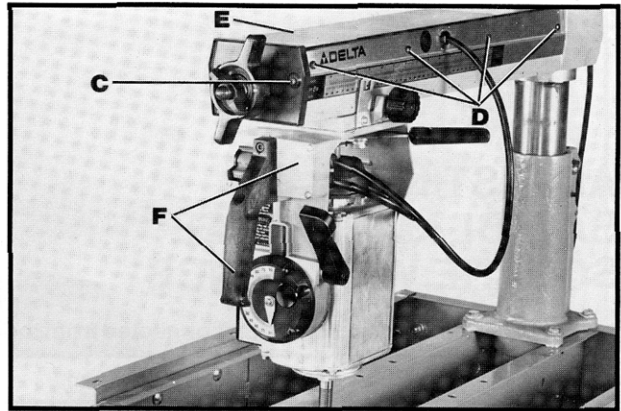
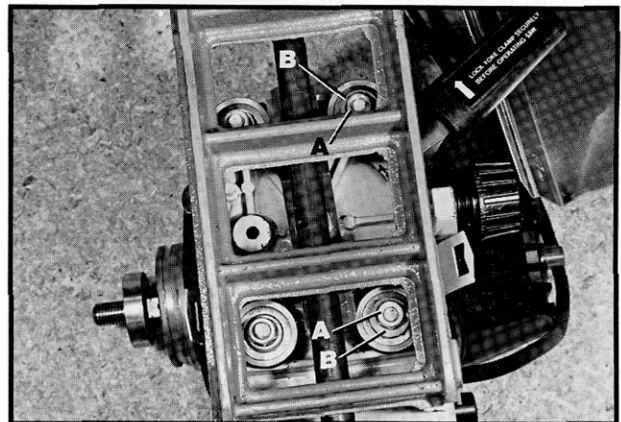

Fig. 39
Fig. 40
2. Loosen two screws, one of which is shown at (C) Fig. 39, that hold track arm end cap.
3. Remove eight screws, four of which are shown at (D) Fig. 39, and remove cover (E) from top of track arm.
4. Loosen two locknuts (A) Fig. 40, on the adjustable bearings.
5. With wrenches supplied, turn eccentric nuts (B) Fig. 40, clockwise to remove "play". Tighten two locknuts (A). Check for any "play" in the track arm and make certain the cuttinghead assembly (F) Fig. 39, moves freely in the track arm.
6. Replace top track arm cover (E) Fig. 39, and fasten with eight screws (D), which were removed in **STEP 3**.